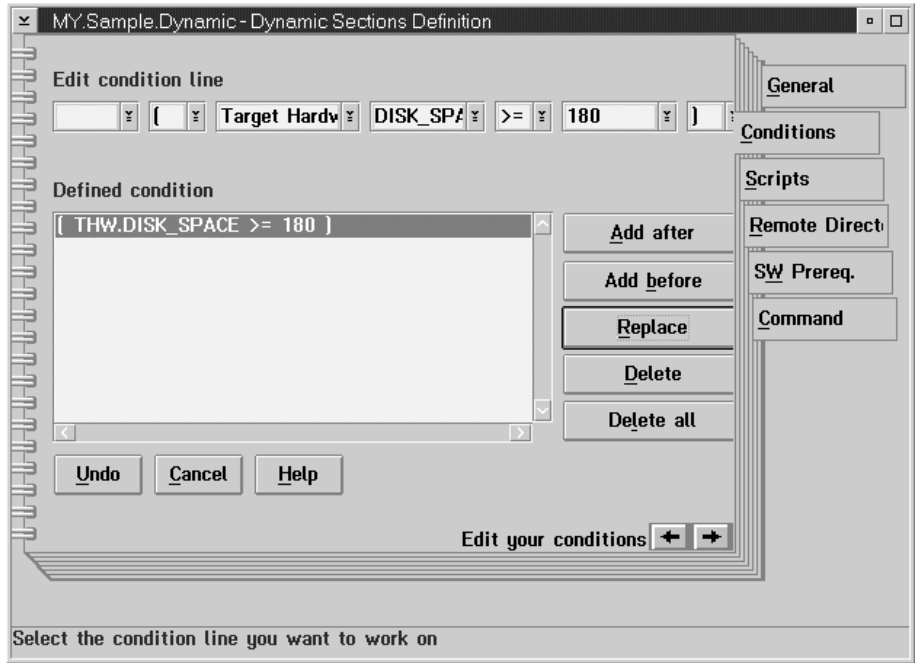

Figure 90. Dynamic sections definition notebook: conditions page
- 18** Click on the **Conditions** tab. The Conditions page is displayed, as shown in Figure 90 on page 178.
- 19 Fill in the entry fields contained in the Edit condition line group, to define the second condition (DRIVE_SIZE > 180M), as shown in Figure 90.